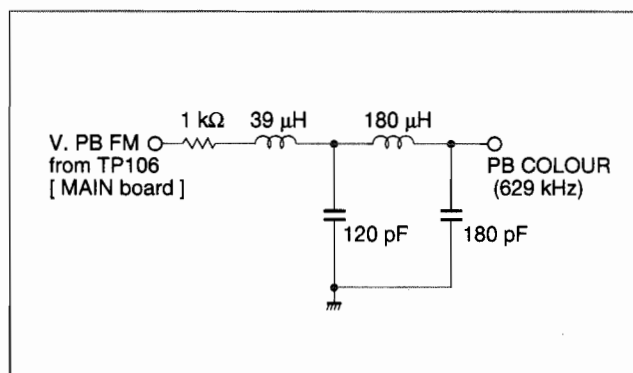
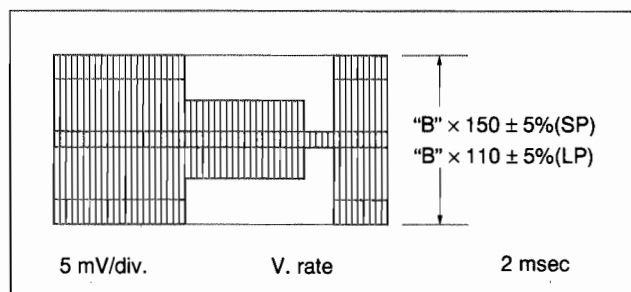

Fig. 3-3-4 LPF
Fig. 3-3-5 REC colour level
- (1) Connect an oscilloscope to PB COLOUR of a LPF (refer to Fig. 3-3-4) and TP111 (negative slope) on the MAIN board.
- (2) Playback the SP colour bar signal of the MH-2H alignment tape.
- (3) Adjust by pressing the CH "+" or "-" buttons of the Front panel for maximum level of the color waveform and make a note of the higher colour level "B".
- (4) Press the STOP/EJECT button and eject the MH-2H alignment tape.
- (5) Set the EVR mode by pressing the "K" button of the pre-setting unit.
- (6) Set "A : 2" by pressing 2 button of the remote controller.
- (7) Before recording, adjust the CH "+" or "-" buttons of the remote controller so that the higher level channel becomes 150 ± 5% : SP (110 ± 5% : LP) of the note "B" level during playback as shown in Fig. 3-3-5.
- (8) Record a colour bar signal in the SP (LP) mode, and playback the recorded colour bar signal.
- (9) Set the normal VCR mode by pressing the "K" button again so adjustment data is memorized.